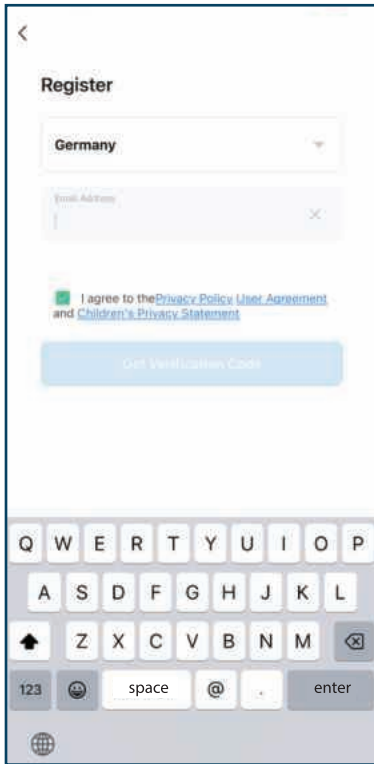

Figure 4
5. Enter your email account, press I agree and press get verification code (Figure 4);